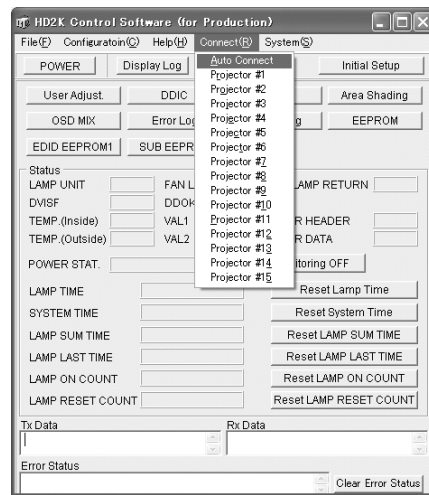

Fig.1
- Click [Connect] in the Menu Bar and select [Auto Connect] in the pull down menu. Refer to Fig.1.